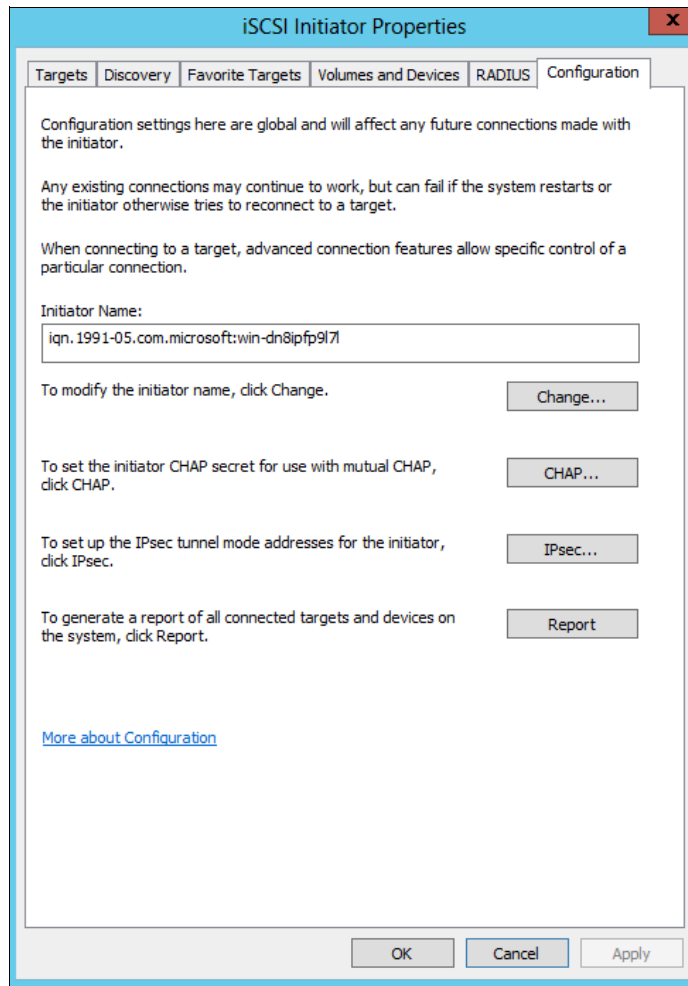

Figure 4-6 Configuring the iSCSI Initiator
3. The iSCSI Initiator window should open. Select the **Configuration** tab, as shown in Figure 4-6.